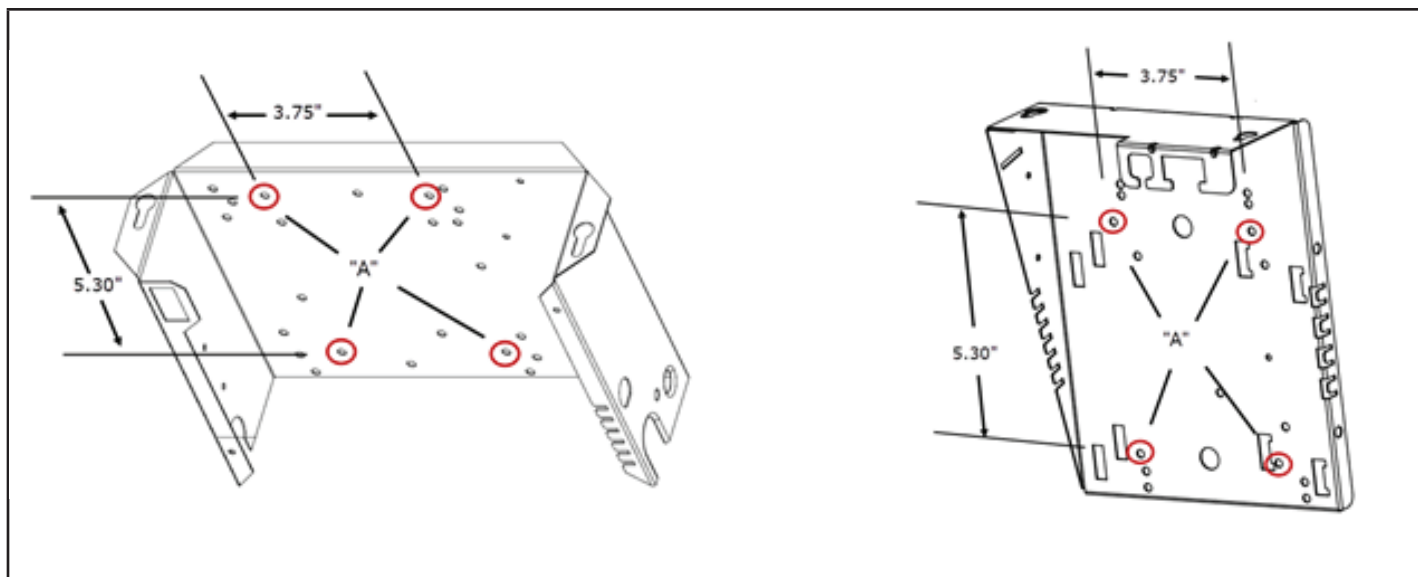

FIGURE 1
- 4 - Position the provided replacement ignition control over the holes marked "A" in Figure 1 for the appropriate control box design. Snap the replacement ignition control into place in the control box. 80UHG – the control mounting panel will be rotated 90° from either position shown in Figure 1.
Position the provided replacement ignition control over the holes marked "A" in Figure 1 for the appropriate control box design. Snap the replacement ignition control into place in the control box.
80UHG – the control mounting panel will be rotated 90° from either position shown in Figure 1.